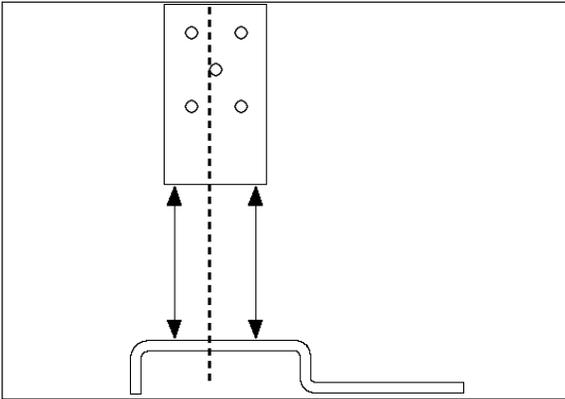

Figure 16
6. Drill one $\frac{5}{16}$ " hole and install one WHST (I). See Figure 16. Tighten to 15 ft-lbs.
IMPORTANT: Check again to make sure that the upper and lower brackets are parallel and perpendicular to each other (Figure 16).